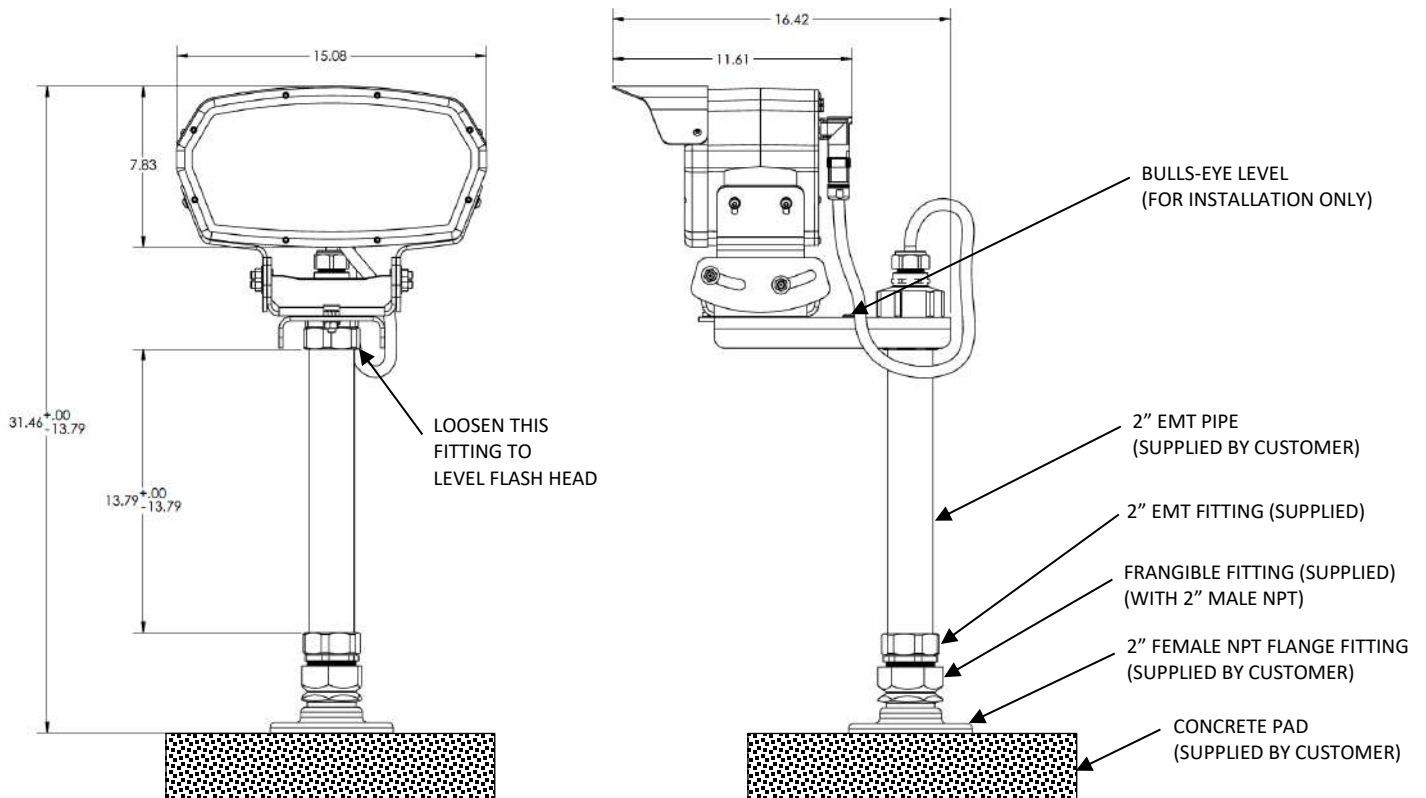

Figure 2.2 – System Dimensions and Mounting Details (continued)
Install the co-mount and remote mount units on separate concrete pads as illustrated in Figure 2.2. Cut EMT pipe such that the dimensions shown in Figure 2.2 are maintained. A bulls-eye level is supplied to assist in leveling the units and is placed in a hole in the mounting brackets. Using this level as a guide, loosen the supplied 2" EMT fittings at the top of the EMT conduit enough to allow the mounting bracket to be moved until it is level, then tighten the fittings. Ensure that the mounting brackets are level after all fittings have been tightened.
The system is supplied with a 3-foot pigtail for connecting the co-mounted flash head and a separate 50-200-foot pigtail for connecting the remote mounted flash head. This longer pigtail is intended to be cut-to-length and terminated in the field, while the short pigtail can be used as-is. The long pigtail, remote input wires and comm wires are to be routed up through the right side conduit of the PC 800(L) and the incoming power for the system should be routed up the left side conduit. The short pigtail is routed down through the cable gland between the conduits and out to the co-mounted flash head as shown in Figure 2.2.
- A remote switch can be connected via the remote inputs and remote power output to enable remote switching of the 800(L) system. This switch should accommodate switching of the 24 volt remote DC + power provided by the PC 81xx(L) terminal block.